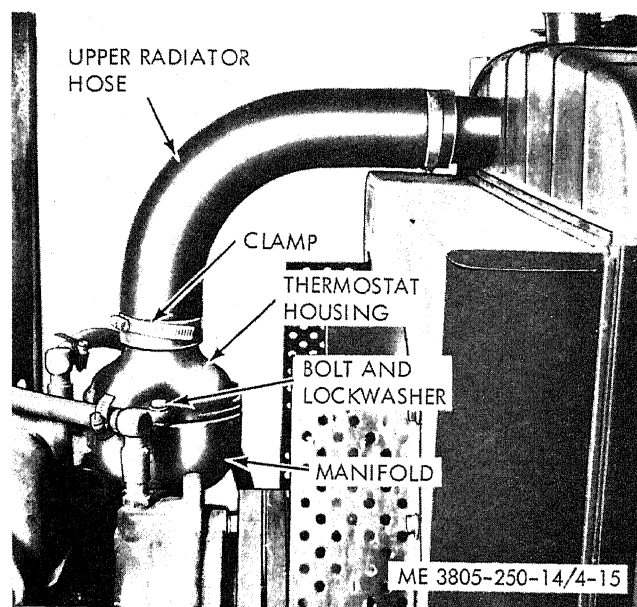

Figure 4-15. Thermostats, removal and installation.
b. Removal (fig. 4-15).
(1) Drain the cooling system.
(2) Disconnect the clamp securing the upper radiator hose to the thermostat housing.
(3) Remove three bolts and lockwashers securing the housing to the manifold. Discard the attaching gasket. Remove the two thermostats from the manifold.